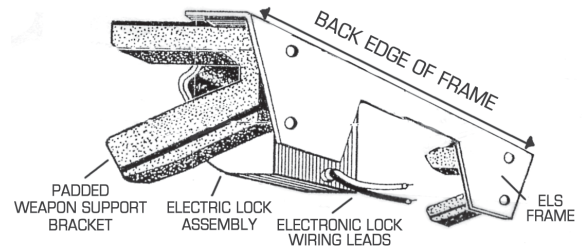
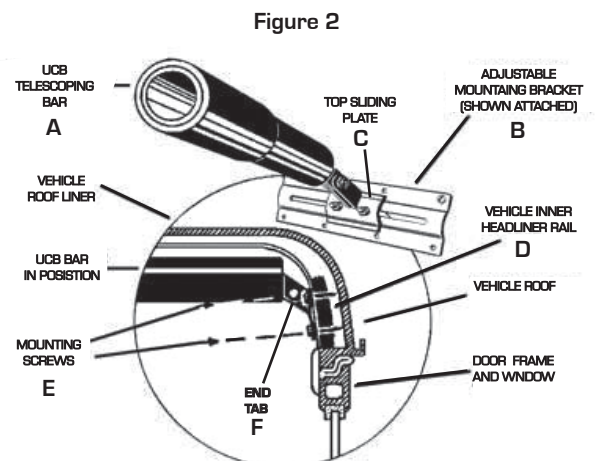

Figure 1
Figure 2
2. Mark vehicle ceiling with chalk (or similar brush off marker) along rear edge of gun rack (Fig. 1), then measure and mark a location 1 inch to the rear of the first mark (this is the center mark of the UCB when mounted). Set your gun and ELS rack aside. Remove the first mark. Hold up the UCB (Fig 2-A) centering it on the remaining mark, and extend it to each side of vehicle.